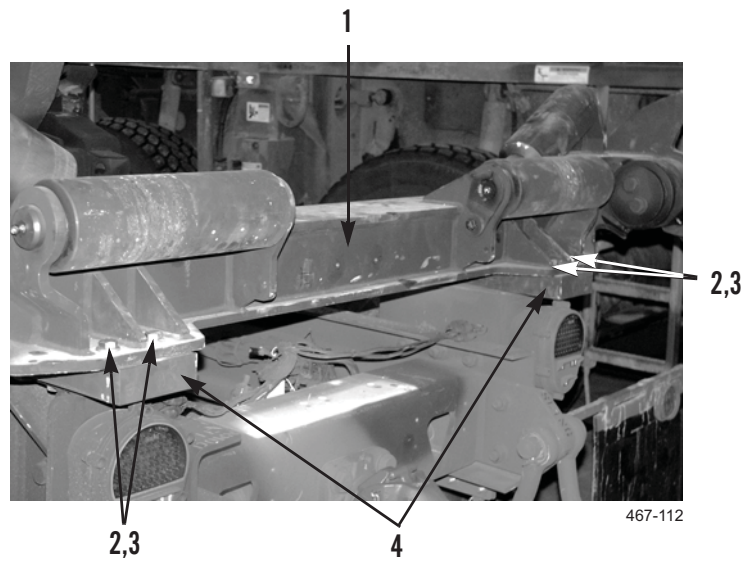

Figure 14. Rear Slider Assembly.
3. Use lifting device to place rear slider assembly (Figure 14, Item 1) on mounting blocks (Figure 14, Item 4), aligning holes in rear slider assembly with front holes in mounting block.
5. Install four washers (Figure 14, Item 2) and bolts (Figure 14, Item 3) in rear slider assembly (Figure 14, Item 1).